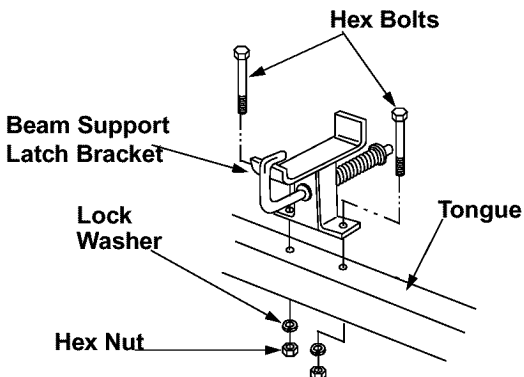

Figure 1
- Remove two hex bolts, lock washers, and hex nuts from the tongue. See Figure 1.